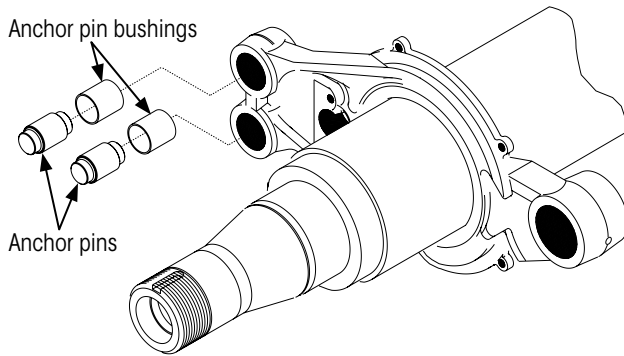

Figure 39: Installing new anchor pins and anchor pin bushings
1. Inspect the anchor pin bushings in the spider. Remove and replace if necessary (Figure 39).
2. Apply anti-seize compound to inside surface (ID) of anchor pin bushings.
3. Install the anchor pins (Figure 39).